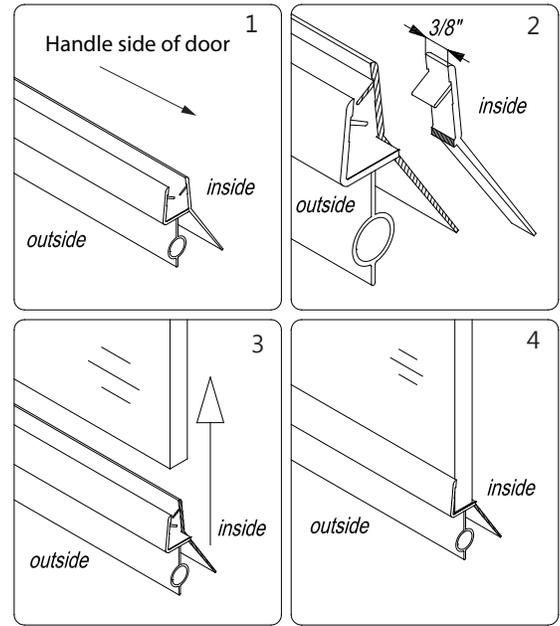

Fig 12
**11.** Measure the bottom of the **Glass door (#01)** from end to end to determine the actual width of the door. Cut the **Bottom anti-water strip (#07)** to the size of your measurement and notch  $3/8"$  of the inner side of the **Bottom anti-water strip (#07)** as shown in Fig 12. Press the **Bottom Anti-water strip (#07)** onto the bottom edge of the **Glass door (#01)**.
See Fig. 12 for details